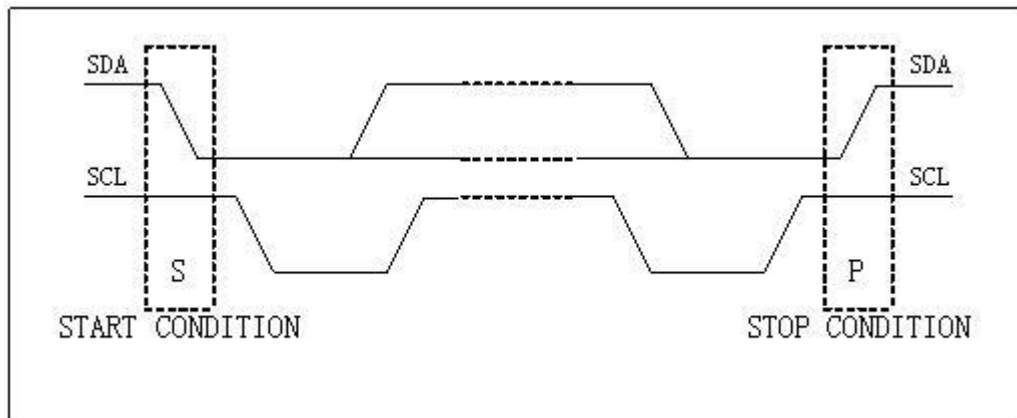

Figure 12 Start and Stop Conditions
Both SDA and SCL remain high when the bus is not busy. A high-to-low transition of SDA, while SCL is high, is defined as the START (S) condition. A low-to-high transition of the data line while SCL is high is defined as the STOP (P) condition (Figure 12).